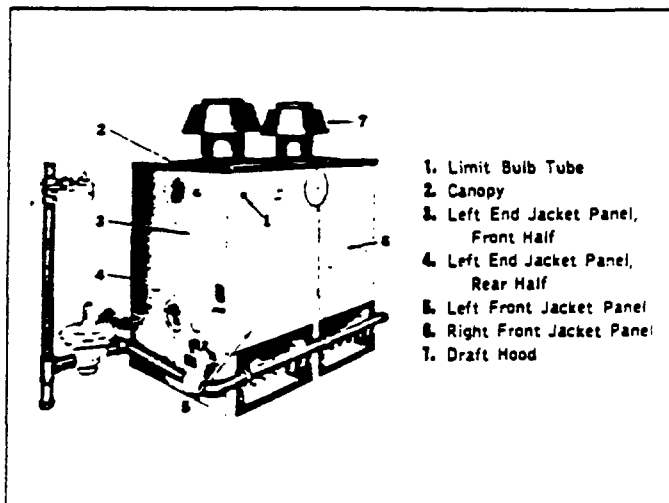

FIG. 17—Jacket Assembly; 13 through 21 section water boiler shown
1. Insert temperature bulbs in upper tappings under jacket knockouts on left end section, see Fig. 17. For more sensitive operation, discard well before installing split nut and gland. Tube leading to bulb should be installed under jacket at corners.